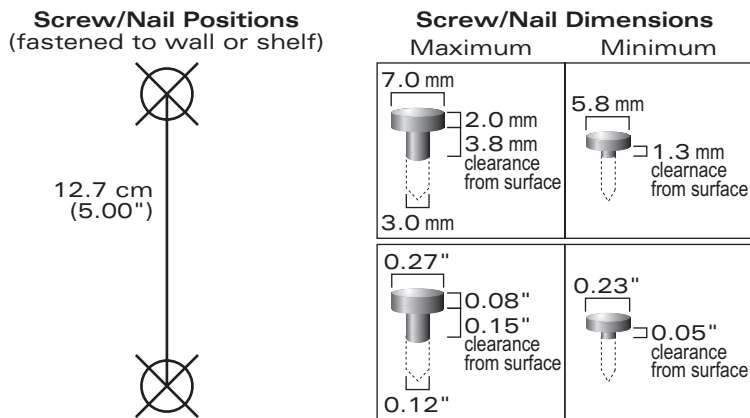

FIGURE 3-3 Mounting Screw Specifications
- 1 Install two screws in the wall or shelf as shown in Figure 3-3: